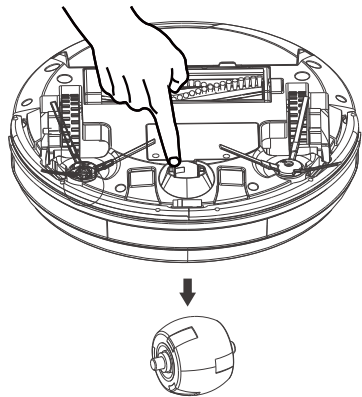

Figure 2
- Remove the nose wheel with a screwdriver. Remove hair in the wheel cavity and axle twice a week. (Figure 2)